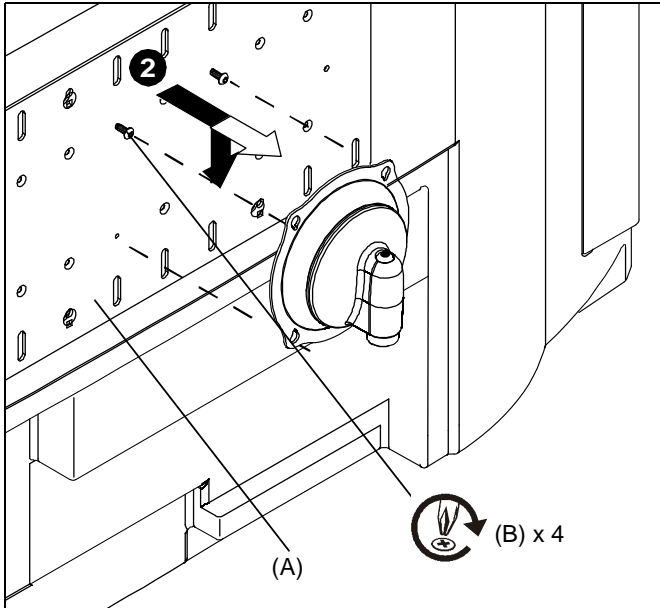

Figure 6
1. Start two M4 x 8mm Phillips pan head screws (B) into top mounting holes on interface bracket (A). (See Figure 6)
2. Align two screws in interface bracket (A) with upper mounting holes in Centris cup and lower display until screws are seated in lower area of teardrop mounting holes. (See Figure 6)